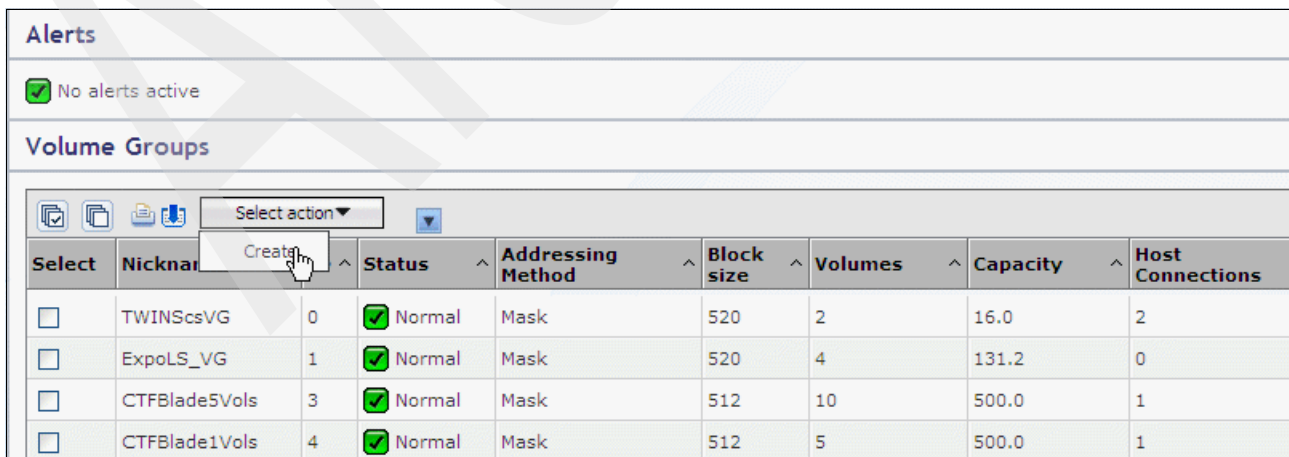

Figure 10-17 Working with volume groups
- Create a new volume group by selecting **Real-time manager** → **Configure storage** → **Open systems** → **Volume Groups**. Select **Create** from the Select action drop-down menu (see Figure 10-17).